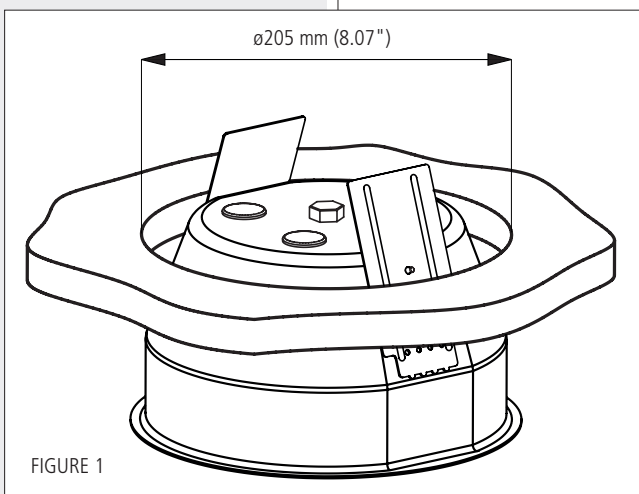

FIGURE 1
1. Drill a hole of diameter 205 mm (8.07") in the false ceiling panel, as shown in figure 1.
3. Insert the fire protection base in the hole previously drilled (as shown in figure 1).